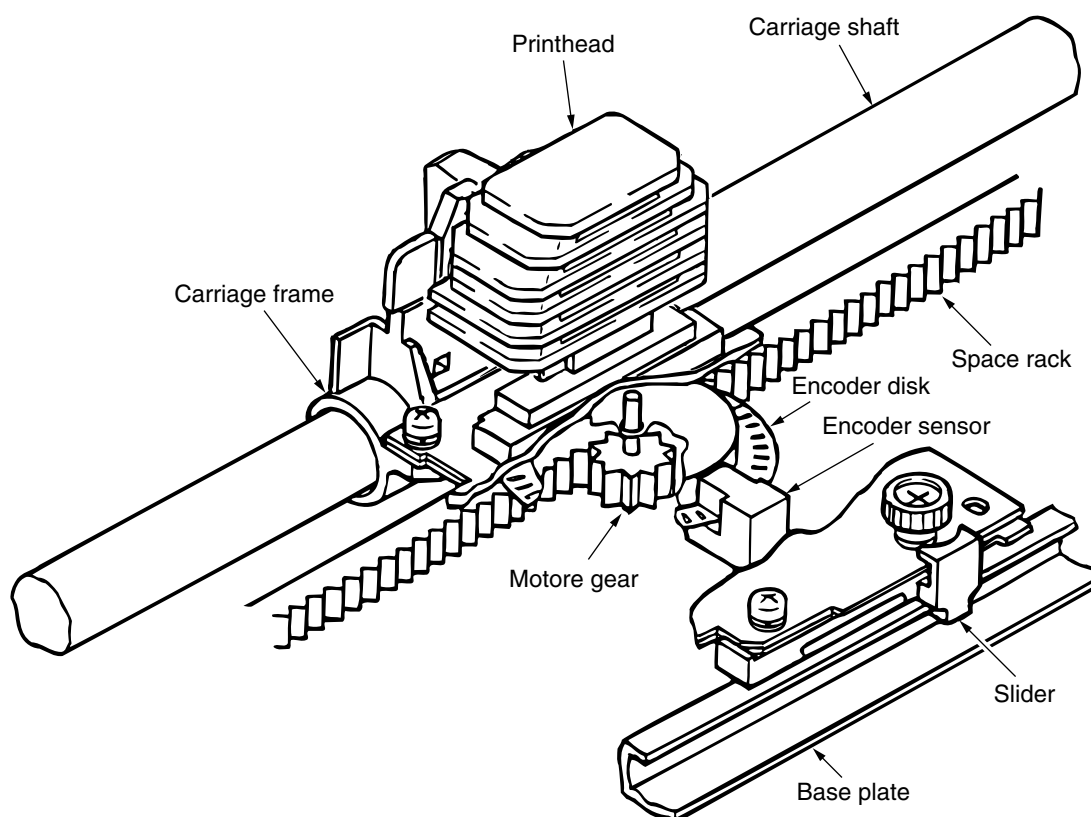

Figure 2-4
2.2.2 Spacing operation (See Figure 2-4.)